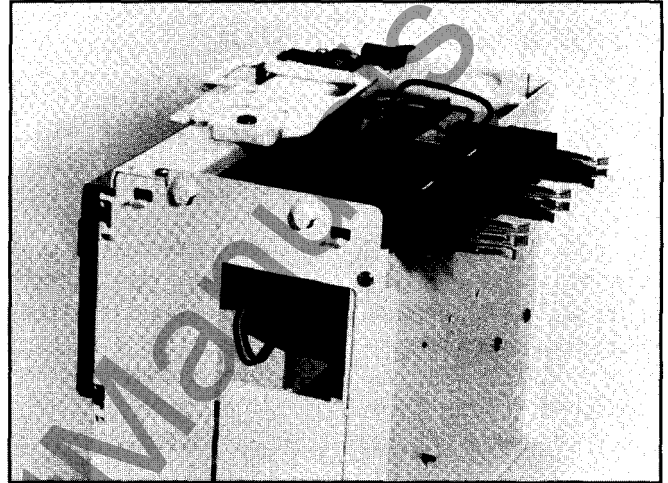

Figure 28. The Stab Assembly
5. **Stab Fingers:** (Figure 28) Inspect stab fingers as instructed under Stab Fingers Section and Vertical Bus Section and replace if necessary.